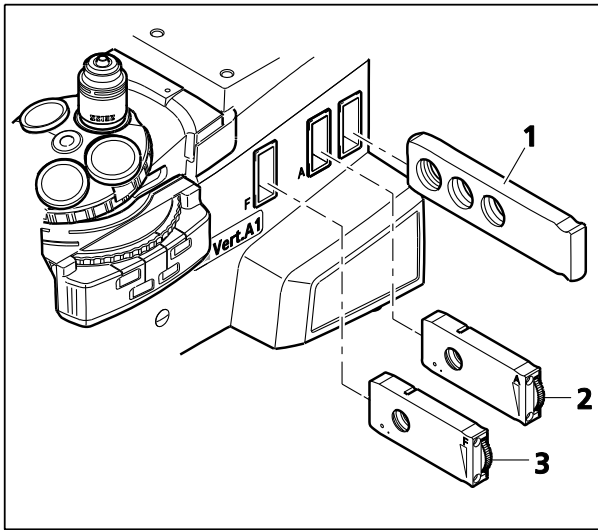

Fig. 2-18 Reflected Light Filter Slider and Slider for Aperture and Luminous Field Diaphragms
- Insert and operate the filter slider from the right (Fig. 2-18/1). To this end, remove the covers from the insertion slot.
- Aperture diaphragm slider A, equipped with a setting wheel (Fig. 2-18/2) to open or close the diaphragm, can be inserted from the right. The FL attenuator may also be inserted here for fluorescence applications.
- The luminous field slider for slot F, equipped with a setting wheel (Fig. 2-18/3) to open or close the diaphragm, can be inserted from the right.